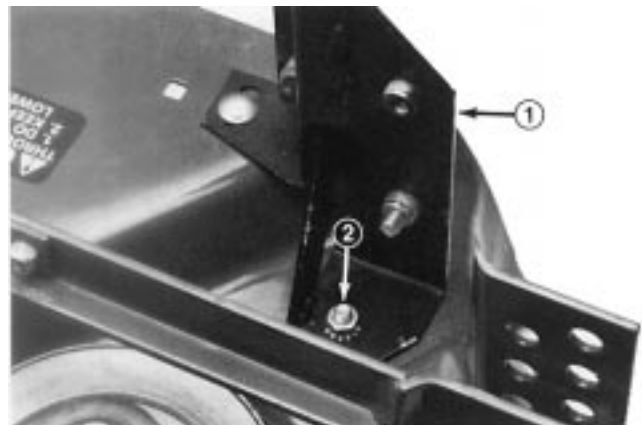

Figure 6
7. Using rear blower bracket as a template, mark and drill remaining 3/8" (9 mm) diameter mounting hole in deck (Fig. 6). Secure with 5/16 x 5/8" (16 mm) bolt through the rear bracket from the top, remove blower from the brackets (Fig. 6).